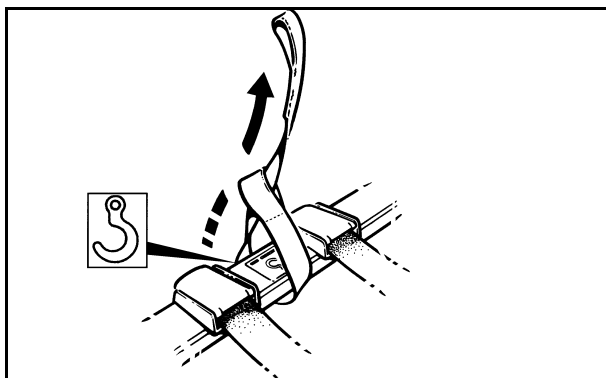

Fig. 51
**CAUTION: If they are not already attached, fix the four suspension straps in the positions indicated by labels on the side sections of the frame (see Fig. 51).**